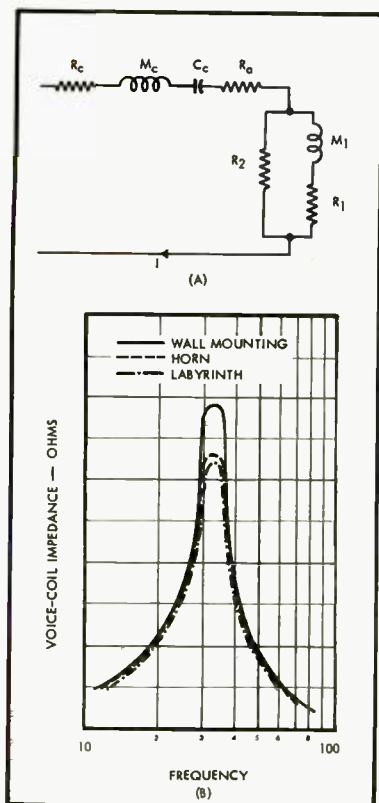

Fig. 22. Analogy and response curve for absorbing pipe.
Again considering the analogous circuit, at frequencies where the pipe is short compared to a wave length, C_p vanishes and the circuit may be redrawn as at (A) in Fig. 22. The total impedance, Z_p , of the pipe components is almost entirely resistive. This is demonstrated by the impedance curves where the loading due to the pipe has reduced the amplitude of the cone resonance, but its frequency is unchanged, as shown at (B) of Fig. 22. Once again there is little to be gained from evaluation of component values since there are too many factors normally unknown to the constructor. We will say, however, that a folded labyrinth will be effective down to that frequency where